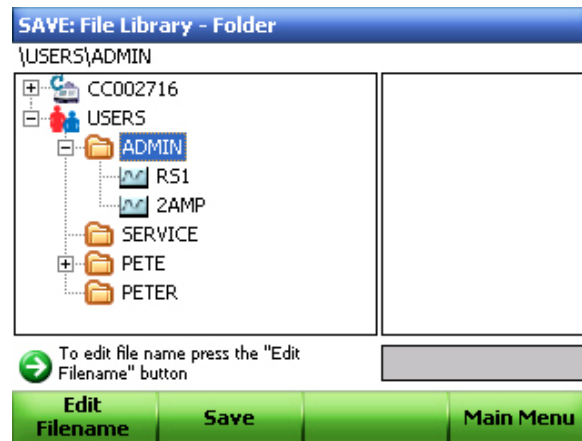

Figure 35. Saving a protocol.
2. Enter a protocol name if you have already not done so, or edit the name previously created in the Protocol window. Use arrow keys to select a destination folder (Figure 35).